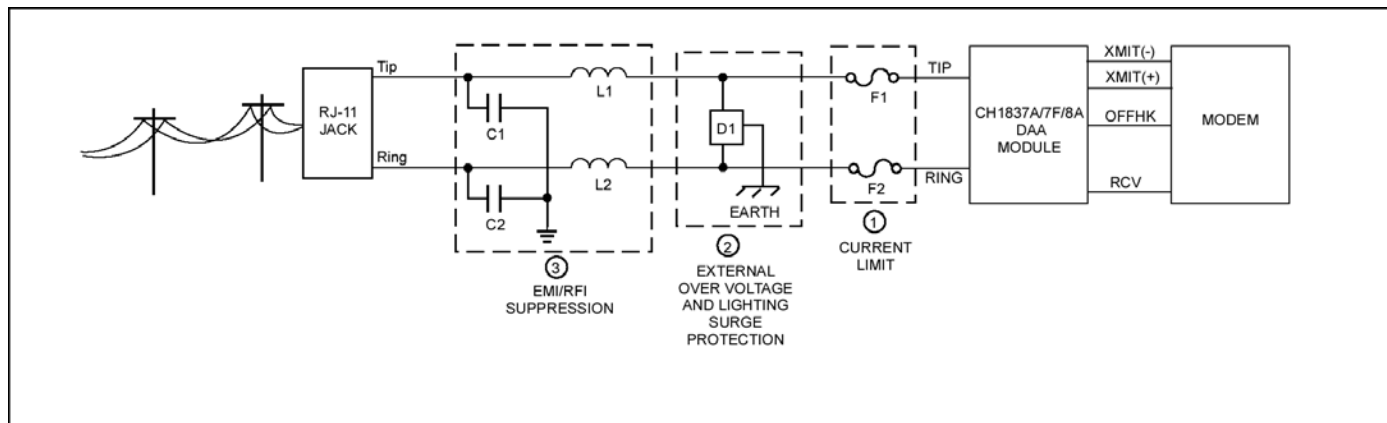

Figure 5. PSTN Line Interface.
The Public Switched Telephone Network (PSTN) line isolation barrier circuitry provides isolation and the required surge and high voltage protection. This circuitry effectively isolates the user’s equipment from both the PSTN line and the CO. The CH1837A/7F/8A has been designed to meet both FCC Part 68 (USA) and DOT CSA CS-03 Part I (Canada) isolation and surge requirements when circuited as indicated in Figure 5. Among the more critical parameters, the PSTN isolation barrier will provide at least 1500VAC RMS isolation and 2122V peak surge protection. The CH1837A/7F/8A is also UL1950 Edition 3 listed and meets CSA C222-950 test conditions when connected as indicated in Figure 5.
transient protection is required. Refer to Figure 5 for mandatory additional protection circuitry.
The CH1837A/7F/8A DAA includes circuitry that couples the modem signals to the PSTN line and provides the FCC required voltage isolation and surge protection when circuited per Figure 5 herein. Cermetek offers the following end product design guidelines as suggestions only. These guidelines are intended to facilitate the usage of Cermetek DAA modules and to assist the user with FCC certification of their end product.
Because the CH1837A/7F/8A already meets the FCC requirements for Part 68 registration for High Voltage Isolation and Surge Protection when circuited per the requirements of Figure 5 herein, certification of the end product containing the CH1837A/7F/8A DAA is normally quite simple. The process involves testing the end system for compliance and submitting the test data to the FCC for review.
The CH1837A/7F/8A DAA meets or exceeds the hazardous voltage, surge and leakage requirements of the FCC when circuited per the requirements of Figure 5 herein. Although the FCC and DOT requirements are virtually identical, it is recommended that for applications that connect to Canadian PSTN lines, a Canadian test house/consultant be retained to ensure compliance of the end product.
- B. In most environments, 2 terminal surge suppressors are adequate. For severe environments, use an external 3 terminal device (as indicated in Figure 5) with an earth ground.